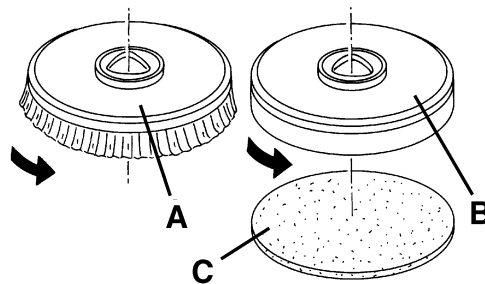

Figure 2
1. According to the kind of cleaning to be performed, the machine can be equipped either with brushes (A, Fig. 2) or pad-holders (B) with pads (C) together with the appropriate deck.
2. (Only for **BA 551D**, **BA 551CD**, **BA 611D**): Turn the ignition key (80) to "0".